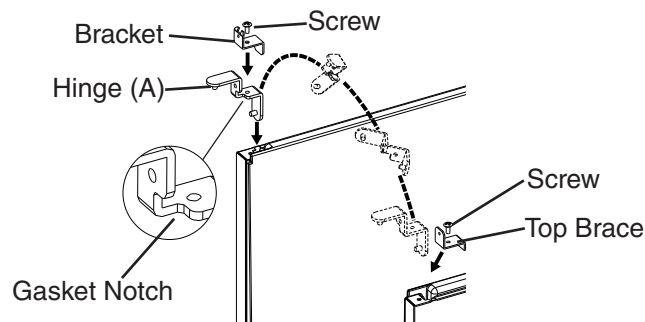

Fig. 3
- 3) Remove hinge (A) and the bracket from the right side of the appliance and the top brace from the left side. Rotate hinge (A) to position the gasket notch to the inside, then fasten hinge (A) and the bracket to the left side and the top brace to the right side. See Fig. 3.